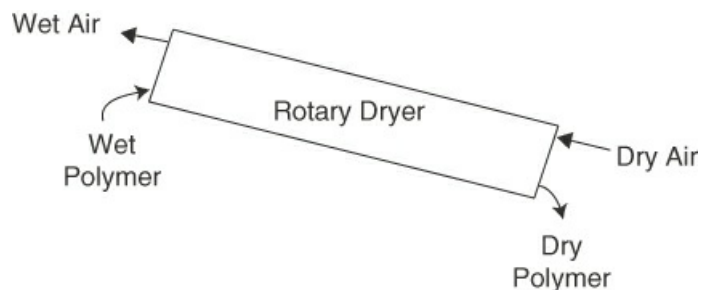

Figure 3.1 Schematic of a rotary dryer
Let's begin with an example. Consider the rotary dryer shown in Figure 3.1. A wet granular polymer is fed into the dryer on one end, and hot dry air is fed into the dryer on the other end. The body of the dryer rotates, drops the wet polymer through the passing air, and moves the wet polymer through the dryer. Therefore, the water on the polymer will evaporate into the air and exit the process with the air on one end of the dryer, and dried polymer will exit the other end of the dryer. The material balances for this process indicate simply that (1) the amount of water that enters the process with the polymer leaves the process with the air, and (2) the amount of polymer that entered the process as wet polymer exits the process as dried polymer. This analysis is based on assuming **steady-state operation** (i.e., the feed streams, the exit streams and the conditions inside the process do not change with time).
Open system or process: Next, let us assume that, in an experiment, you add water to the tank shown in Figure 3.7a at the rate of 100 kg/min and withdraw water at the rate of 100 kg/min, as indicated in Figure 3.7b. Figure 3.7b is an example of an open system (also called a *flow system*) because the material crosses the system boundary. Figures 3.1, 3.2, and 3.3 are also examples of open systems.